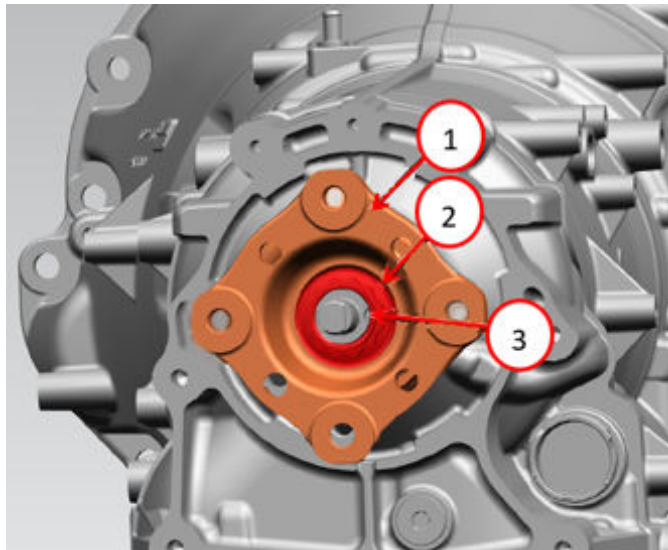

Fig. 55
83. Install the torque converter Fig. 55 Refer to the detailed service procedures available in DealerCONNECT/ Service Library under: Service Info> 21 - Transmission and Transfer Case/Automatic/Torque Converter/ Installation.